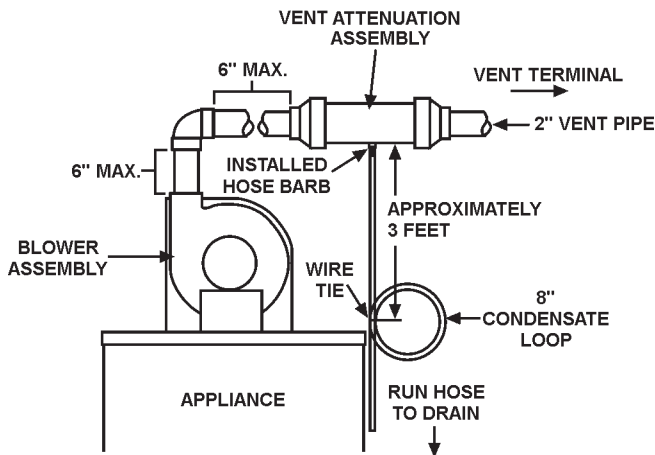

FIGURE 11: Typical Horizontal Installation
2. Use standard PVC cement (not included with kit) and glue the two inch PVC pipe coming from the blower into the VAA. **MAKE SURE THE 1/2" FITTING IS ON THE BOTTOM SIDE OF THE VAA.** This will be used to run the condensate hose to a suitable drain. See typical vent installation in Figure 11.